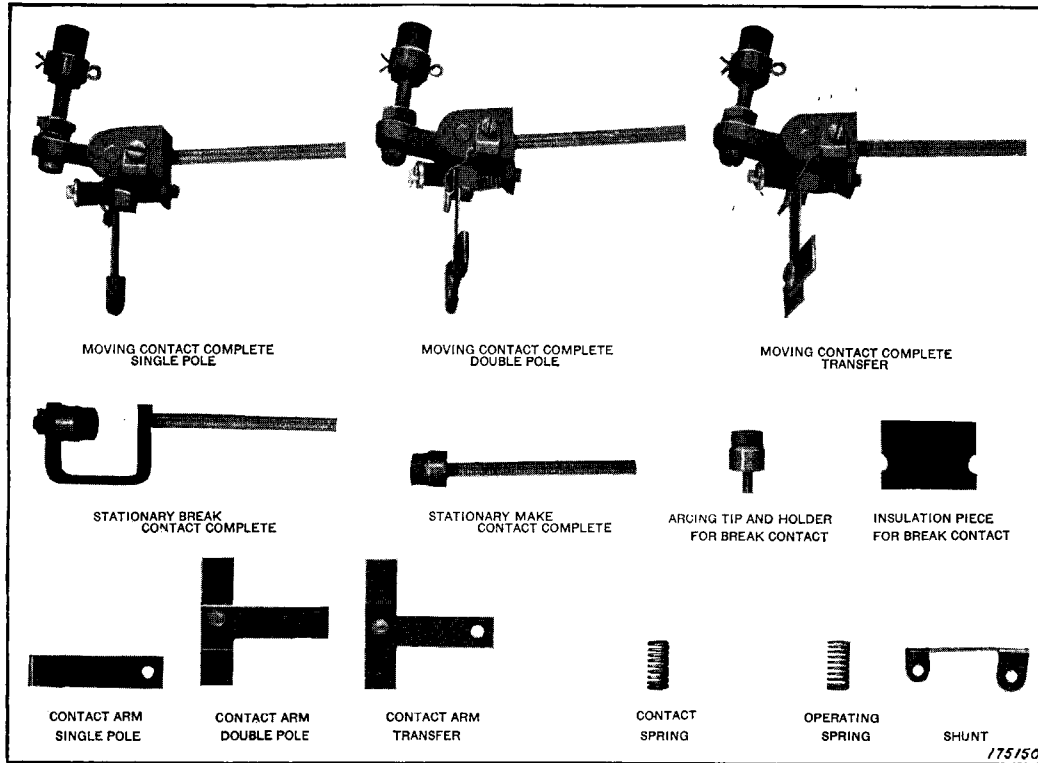
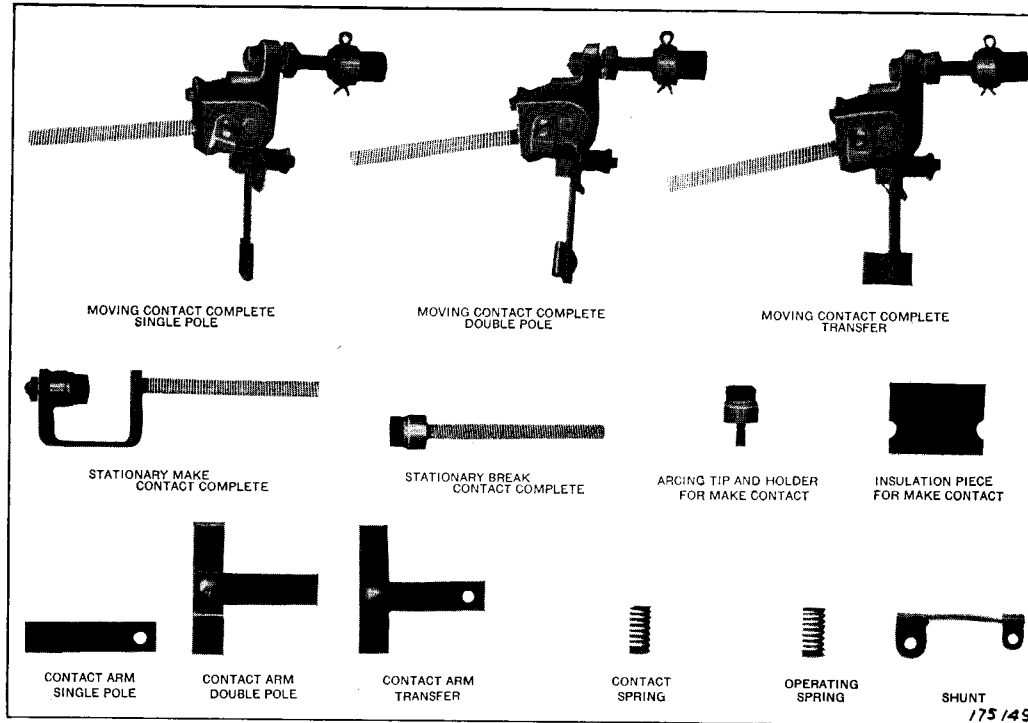

Fig. 3—Renewal Parts for Type L4 Interlock.
Fig. 4—Renewal Parts for Type L4 Interlock.
1. Name the part, using the name shown on the illustrations, Figure 3 or Figure 4 and state quantity desired.